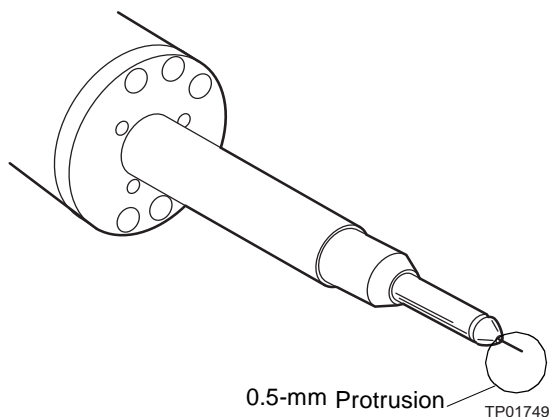

Figure 5-16 ESI Probe Tip with Capillary Protruding 0.5 mm
18. Replace the probe tip, then screw down until a 0.5-mm section of the capillary protrudes from its end (Figure 5-16). Use the loupe, provided in the Startup Kit, to ascertain its length.